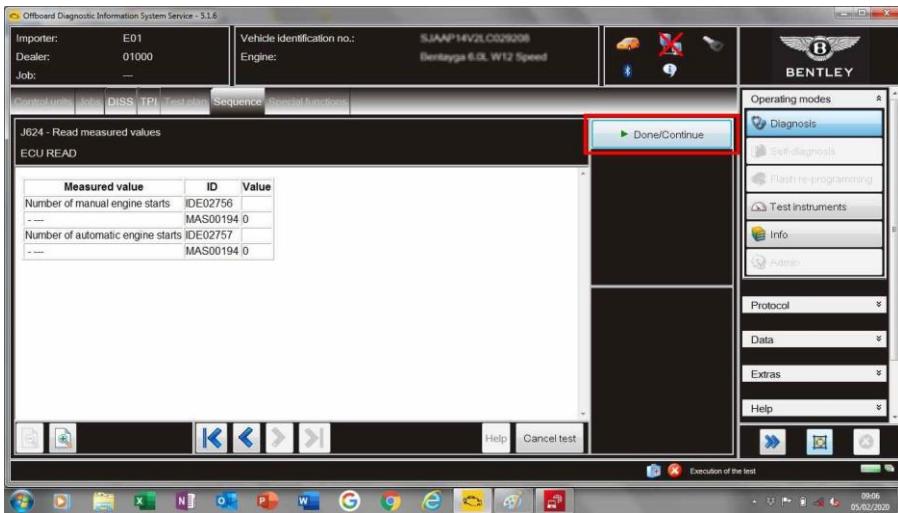

Figure 6.
- Select "Done/Continue" and then exit the application – Figure 6.